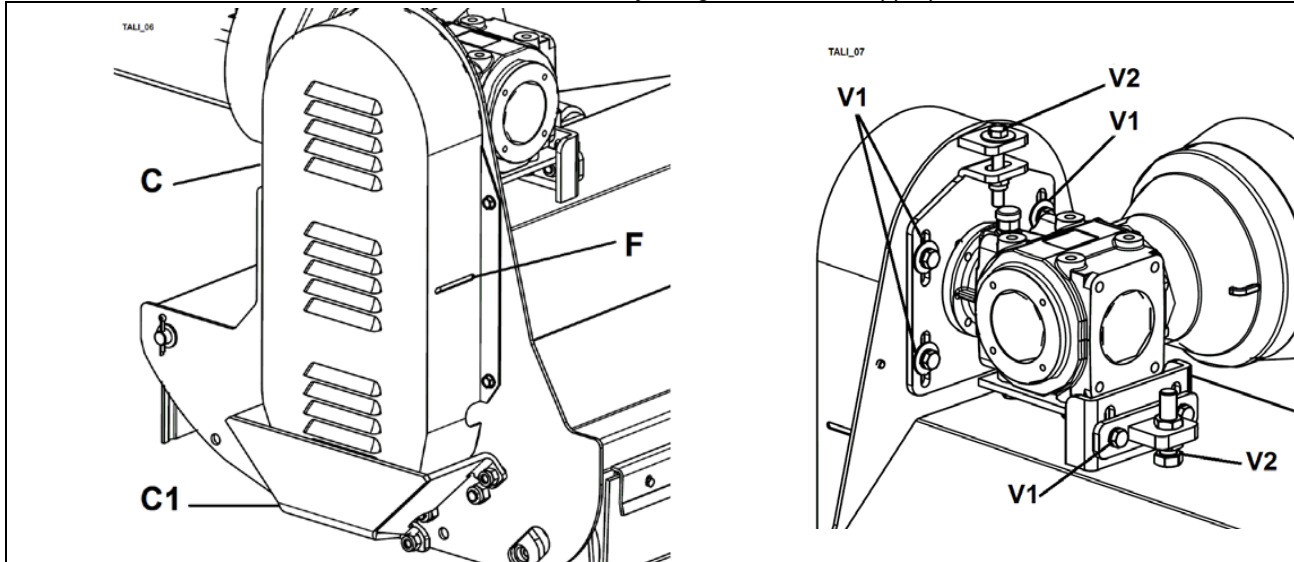

Figure 51
For the adjustment, proceed in the following way. Refer to figure 51:
4. Check for any damages; if any, proceed to immediate repair; 5. Replace the chains A and spacers D, inserting the inside the through-axe pin P; Respect the order of the chains and spacers assembly operations as indicated in figure 71.  Figure 51